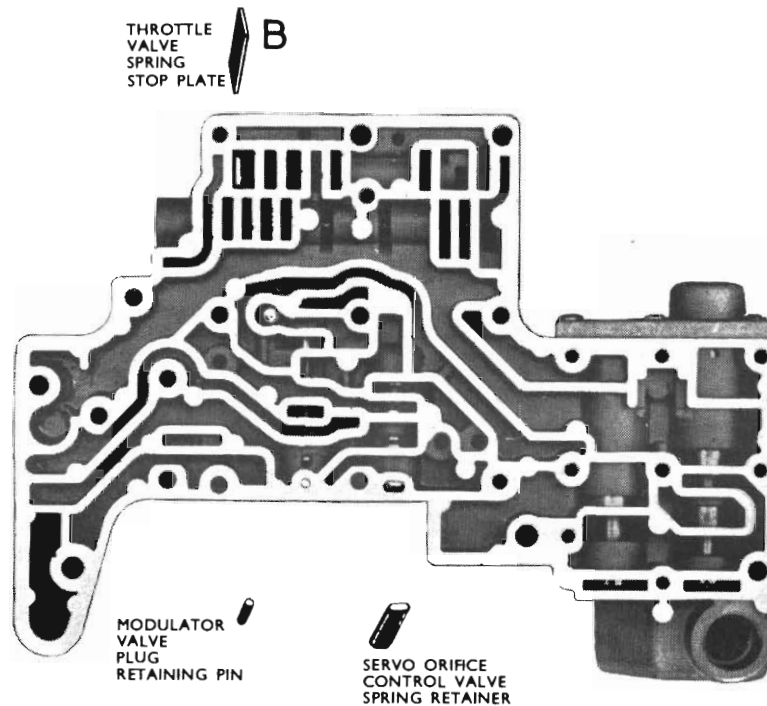
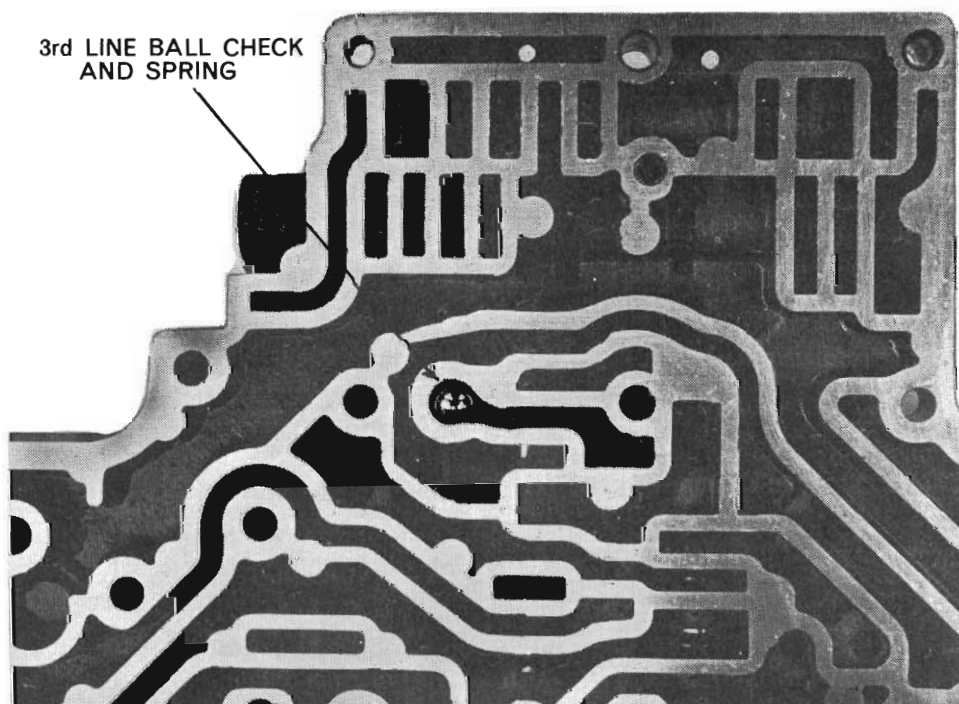

Fig. 32 - Lower valve body assembly
Fig. 33a - Correct location of 3rd line valve ball
In all valve bodies (Fig. 32) a new feature has been introduced which allows much faster manual 3-2 shifts. This consists of a ball check valve in the lower body (Fig. 33A) which "short-circuits" an orifice in the separator plate when this shift is made. The valve must seal at all other times, however, in order to prevent "flare".
(4) Remove 4 screws (1" long and 2" long) and lock washers to remove the governor line plate allowing the separating plate to be detached. Note position of 3rd line ball valve and spring (see Fig. 32).